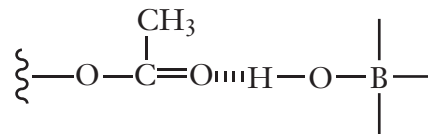
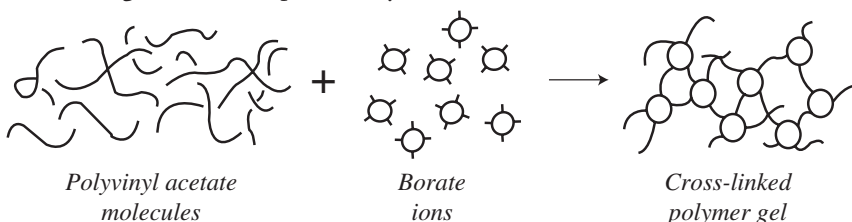

Figure 2.
Figure 3.
PVAC is a simple addition polymer consisting of a long chain of carbon atoms with a polar acetate group (--OCOCH_3) on every other carbon atom. Adding a solution of sodium borate (borax) to glue leads to hydrogen bonding between the --OH groups in borate ions $[\text{B}(\text{OH})_4]^-$ and the acetate groups in PVAC (see Figure 2). Each borate ion may bind to as many as four oxygen atoms in the same or neighboring PVAC molecules. The result is the creation of a large, fluid, three-dimensional network of polymer molecules (see Figure 3). The process by which borate ions “tie-together” neighboring polymer molecules is called *cross-linking*, and the resulting network of polymer molecules forms a gel that traps water molecules. The iron filings remain in the polymer by the force of adhesion, resulting in magnetic slime.
- b. Tape a neodymium magnet on the table next to the puddle of magnetic slime. Watch as the slime slowly engulfs the magnet (see Figure 2). If time is a factor, place the magnet near the slime without taping it down. The magnet will be drawn into the slime very quickly.